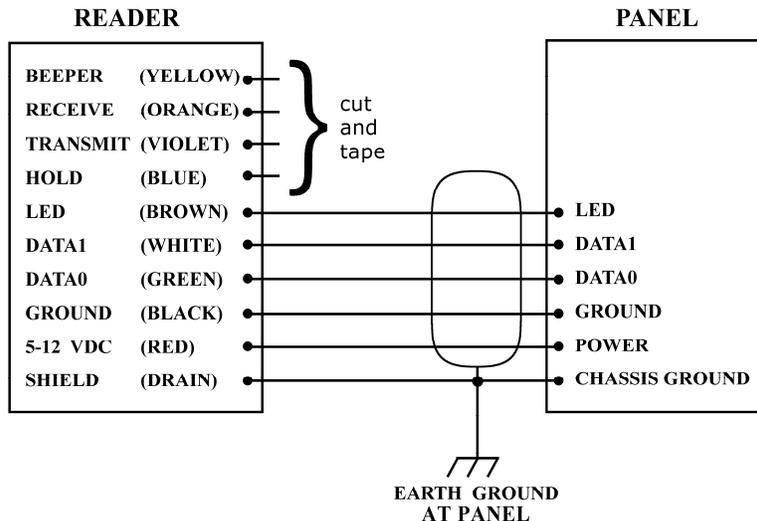

FIGURE 2: WIRING DIAGRAM – WIEGAND
4. Connect the reader's cable to the controller panel as shown in Figure 2. Connect the **yellow** wire only if used for Beeper control by the panel. **Do not connect** the **orange**, **blue** and **violet** wires to anything. **Tape or cap all unused wires singly.**
- 5 or 6 conductors (not twisted pairs), stranded, 22 AWG, color-coded insulation, overall 100% shielded (Number of conductors depends upon use of optional features – Beeper and LED. See Figure 2.)